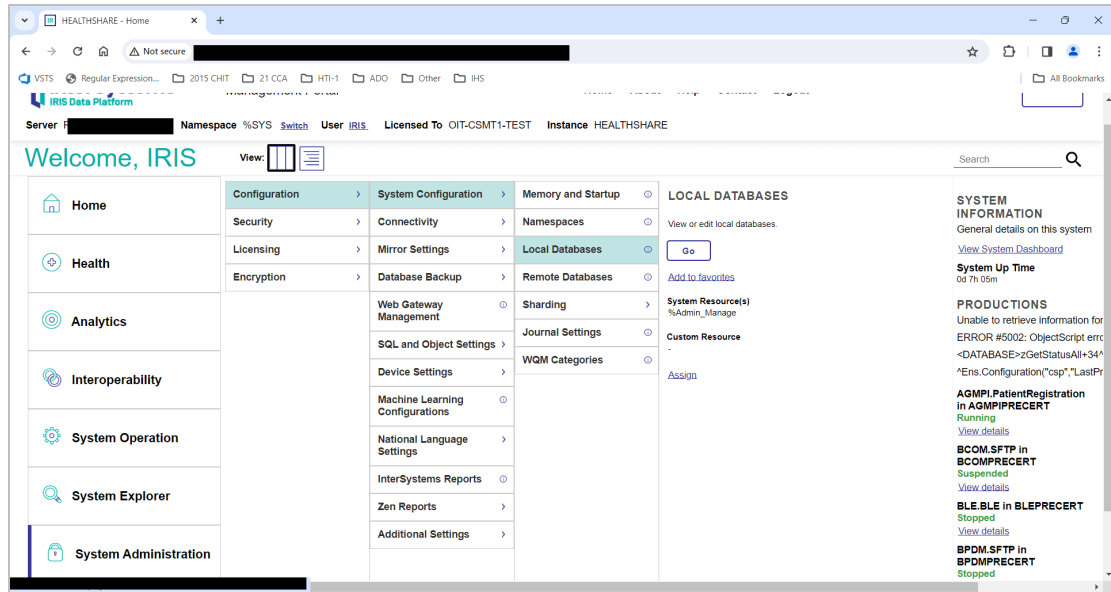

Figure 4-7: Management Portal, Local Databases menu option
1. Return to the main **Management Portal** page. Select **System Administration** in the left column, then select **System Configuration > | Local Databases**, as shown in Figure 4-7.